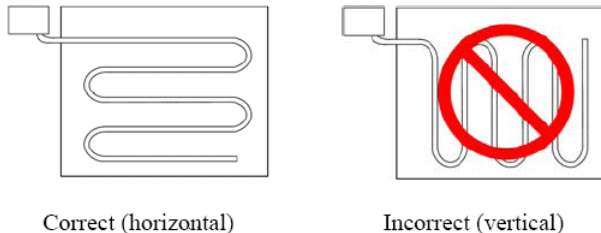

Figure 4: Correct Control Capillary Orientation
12. Work your way back up to the bellows, stringing the sensing element in a serpentine fashion horizontally across the face of the coil, as shown in Figure 4.